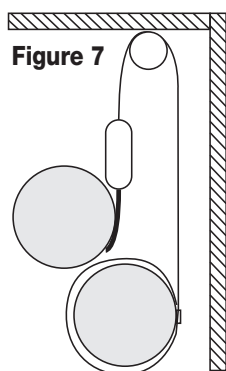

Figure 7
- Carefully pull one side of the draw cable up through one of the Draw Cable Pulleys, then back down and around the back of the operator roller (Fig. 7).